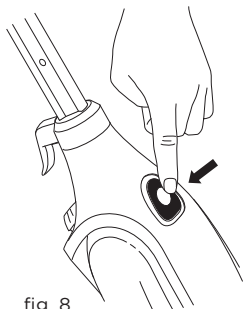

fig. 8
- 8 Press once for DUST, twice for MOP, and three times for SCRUB. Pressing a fourth time will place the unit on standby (**fig. 8, Fig. 9**).